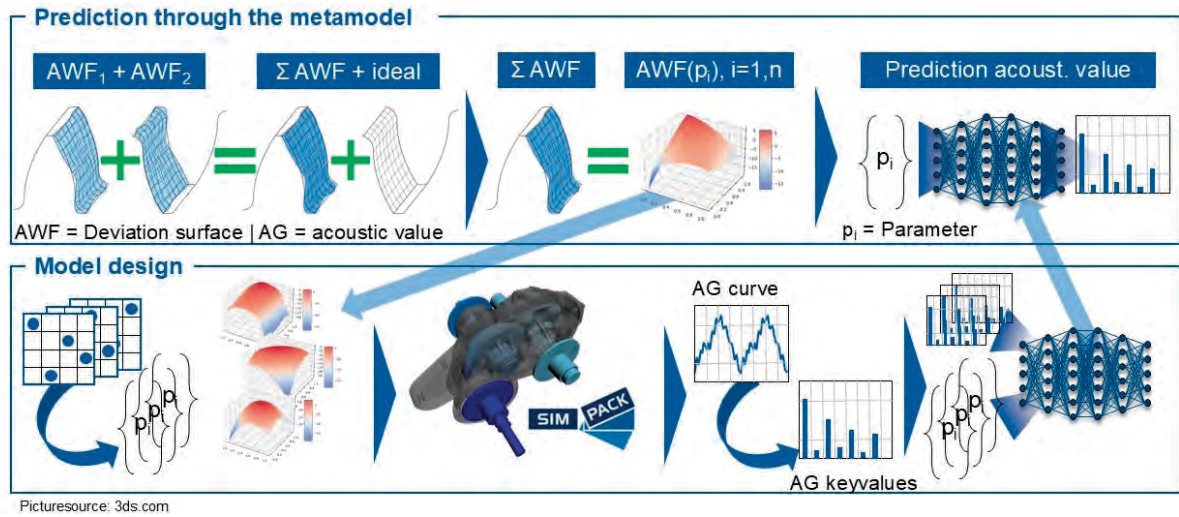

Figure 2—Procedure for the construction of the deep neural network.
Figure 2—Impedance (velocity response to applied torque) of motor, shaft torsional spring, and 100x load inertia (left). Impedance of viscous inertial damper (right).
The objective is to determine the characteristic values of the differential acceleration of a deviation-affected gear pair orders of magnitude faster than is possible with a conventional elastic multibody simulation model (EMBS) under load. Therefore, a DNN is developed that approximates the EMKS and achieves this time advantage. The method to be developed for calculating the characteristic values of the transmission error (TE) with this model is shown in Figure 2. It is assumed that each of the two gears is provided with a deviation. In the first step, these two deviation sur-